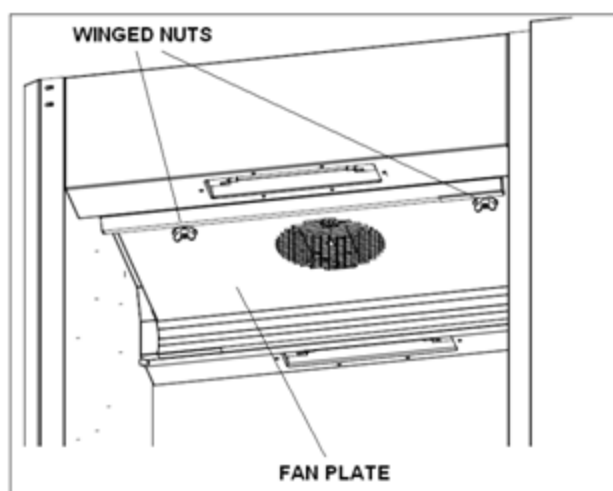

Figure 16
- Remove the fan plate by loosening two winged nuts (see Figure 16). This plate hinges at two points at the sides. After pivoting, the plate can be removed from the unit.